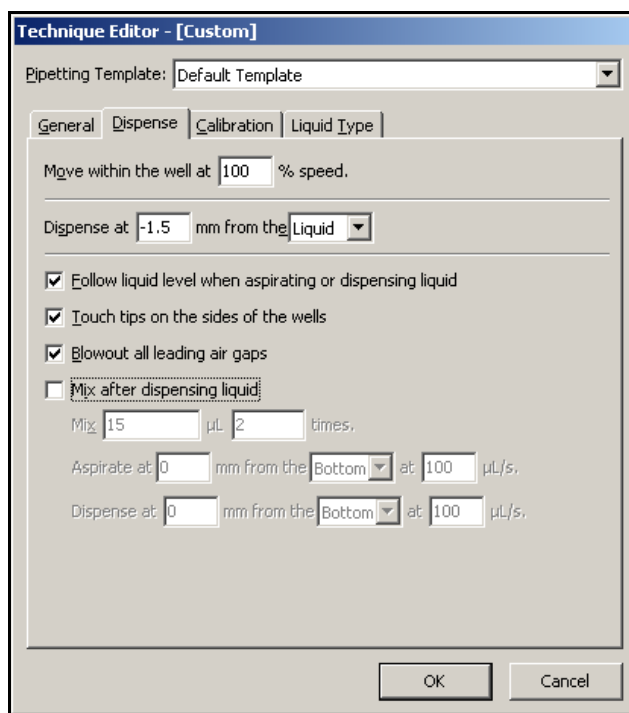

Figure 2-5. Dispense tab of the Technique Editor
2. In the **Destination** configuration fields, select **Customize**. The **Technique Editor** opens to the **Dispense** tab (Figure 2-5).
1. From the **Dispense** tab (Figure 2-5), check **Mix after dispensing liquid**. The fields for this option are enabled. We'll allow some of the defaults to remain except for the amount and number of times to mix.